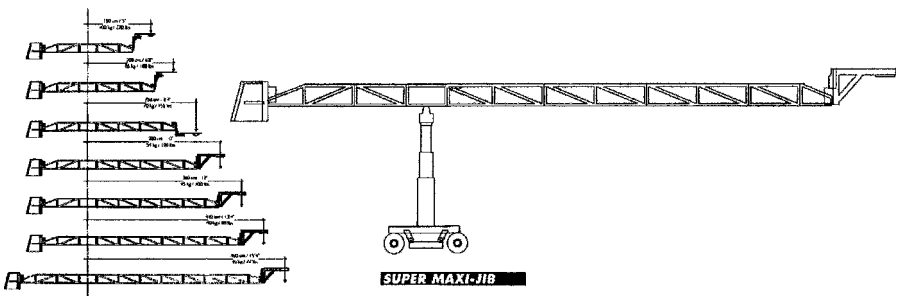

Figure 11.8 Super Maxi-Jib.
- **Super Maxi-Jib** (Figure 11.8)